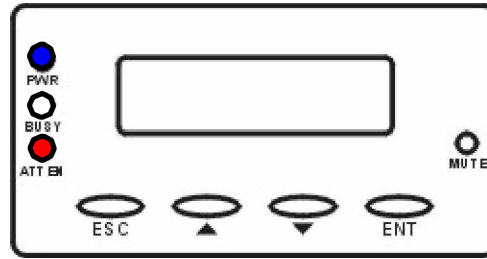

Figure 4-4: LCD Keypad Panel
The LCD keypad as shown in *Figure 4-4* consists of five (5) buttons, three (3) LEDs, and a 16x2-character LCD screen that indicates subsystem status. Press the **ENT** button for two (2) seconds on the initial screen to enter the main menu. Press the **ESC** button to clear the current event.